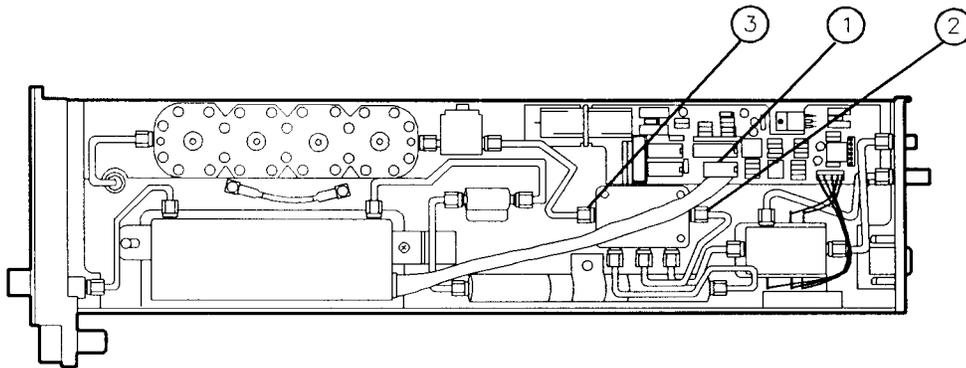

Figure 6-13. A14 4.4 GHz Low Pass Filter Replacement
3. Disconnect the A8W1 cable assembly from J1 of the A1 Miscellaneous Bias board (1). See Figure 6-13.
5. Remove the W6 semirigid cable from the A14 4.4 GHz Low Pass Filter (2).
6. Remove the W14 semirigid cable from the A14 4.4 GHz Low Pass Filter (3).